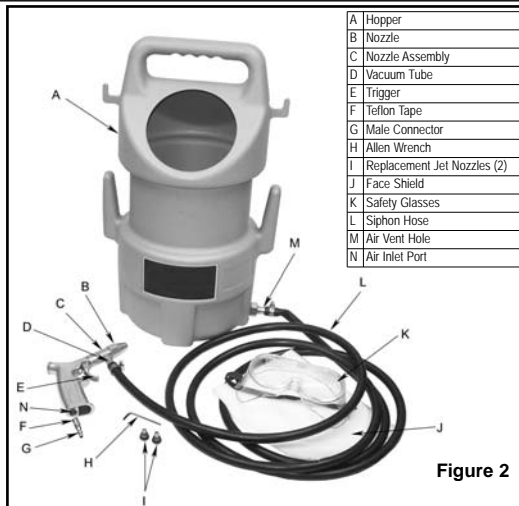

Figure 2
- Install a 1/4" NPT male connector (not included) into the air inlet port on the tool (see Figure 2). **Note: Use Teflon® Tape on all threaded connections.**
- Place one of the hose clamps onto the siphon hose and push the end of the siphon hose onto the connector on the bottom of the hopper. Tighten the hose clamp. (see Figure 2). **NOTE: Always make sure that the air vent hole (M) remains open at all times and is facing straight up. Abrasives must flow freely from the hopper to the level part of hose below the hopper.**
- Place the other hose clamp on the other end of the siphon hose and push the end onto the vacuum tube (D). Tighten the hose clamp. (See Figure 2).